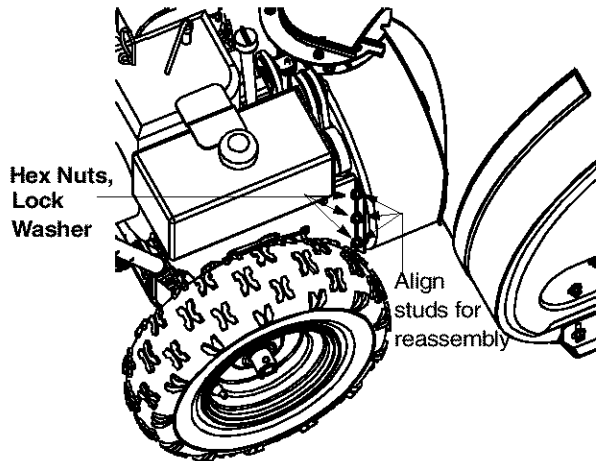

Figure 30
- Remove the six hex nuts and lock washers which attach the auger housing assembly to the frame assembly. See Figure 30.
- Lift the frame assembly and tip the auger housing forward to align studs with the corresponding holes on both sides of the frame assembly. See Figure 30. Push the frame assembly fully on to the studs.
- From the frame assembly side, insert six lock washers and hex nuts on to the studs. These pieces of hardware were removed earlier. See Figure 30. Tighten the nuts securely.